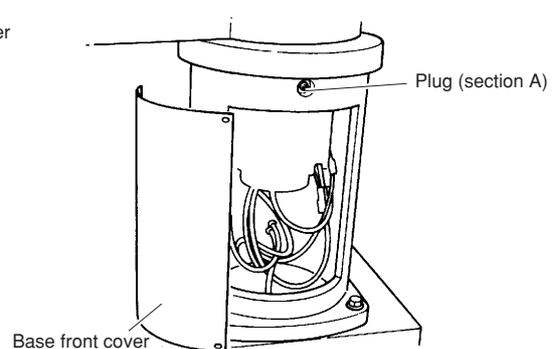

Fig. 5-70
- 8) Remove the plug on the front (section A) of the robot base and attach the grease nipple (A-MT6×1) there. (See Fig. 5-70.)